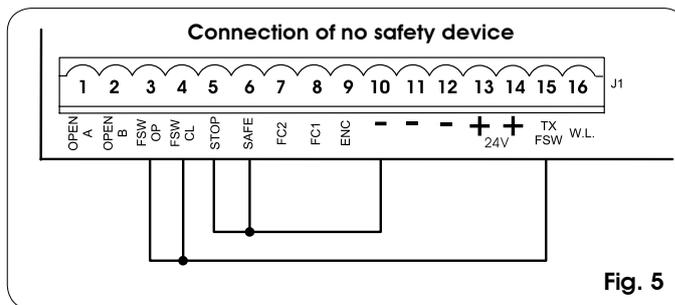

Fig. 5
**N.B. If safety devices are not used, jumper connect the terminals as shown in fig. 5.**
**NB.:** If no opening safety devices are connected, jumper connect inputs **FSW OP** and **-TX FSW** (fig. 5).
**NB.:** If no closing safety devices are connected, jumper connect terminals **FSW CL** and **-TX FSW** (fig. 5).
**NB.:** If edge safety devices are not connected, jumper connect the **SAFE** and **- inputs** (fig. 5).